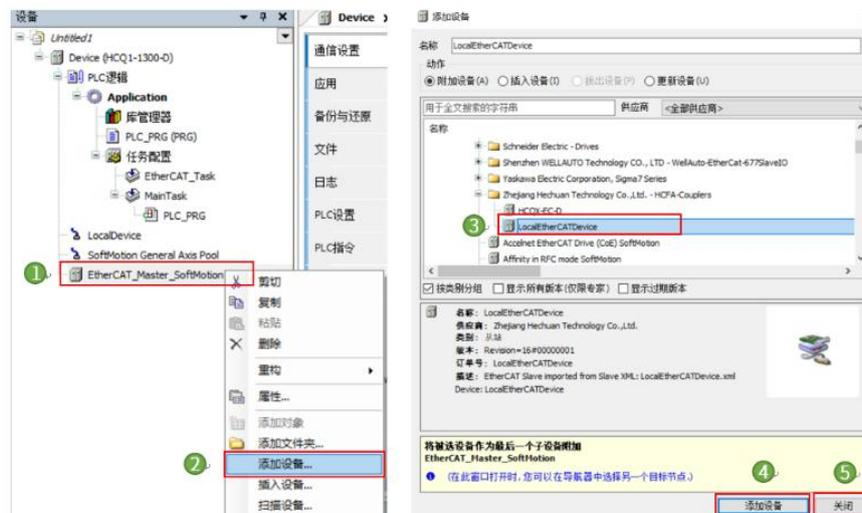

Figure 13-8 LocalEtherCATDevice adding
2. Right-click [EtherCAT\_Master\_SoftMotionm] and select [Add Device]. Select [LocalEtherCATDevice] in the pop-up screen, and click [Add Device], and click [Close] after adding, as shown in Figure 13-8.